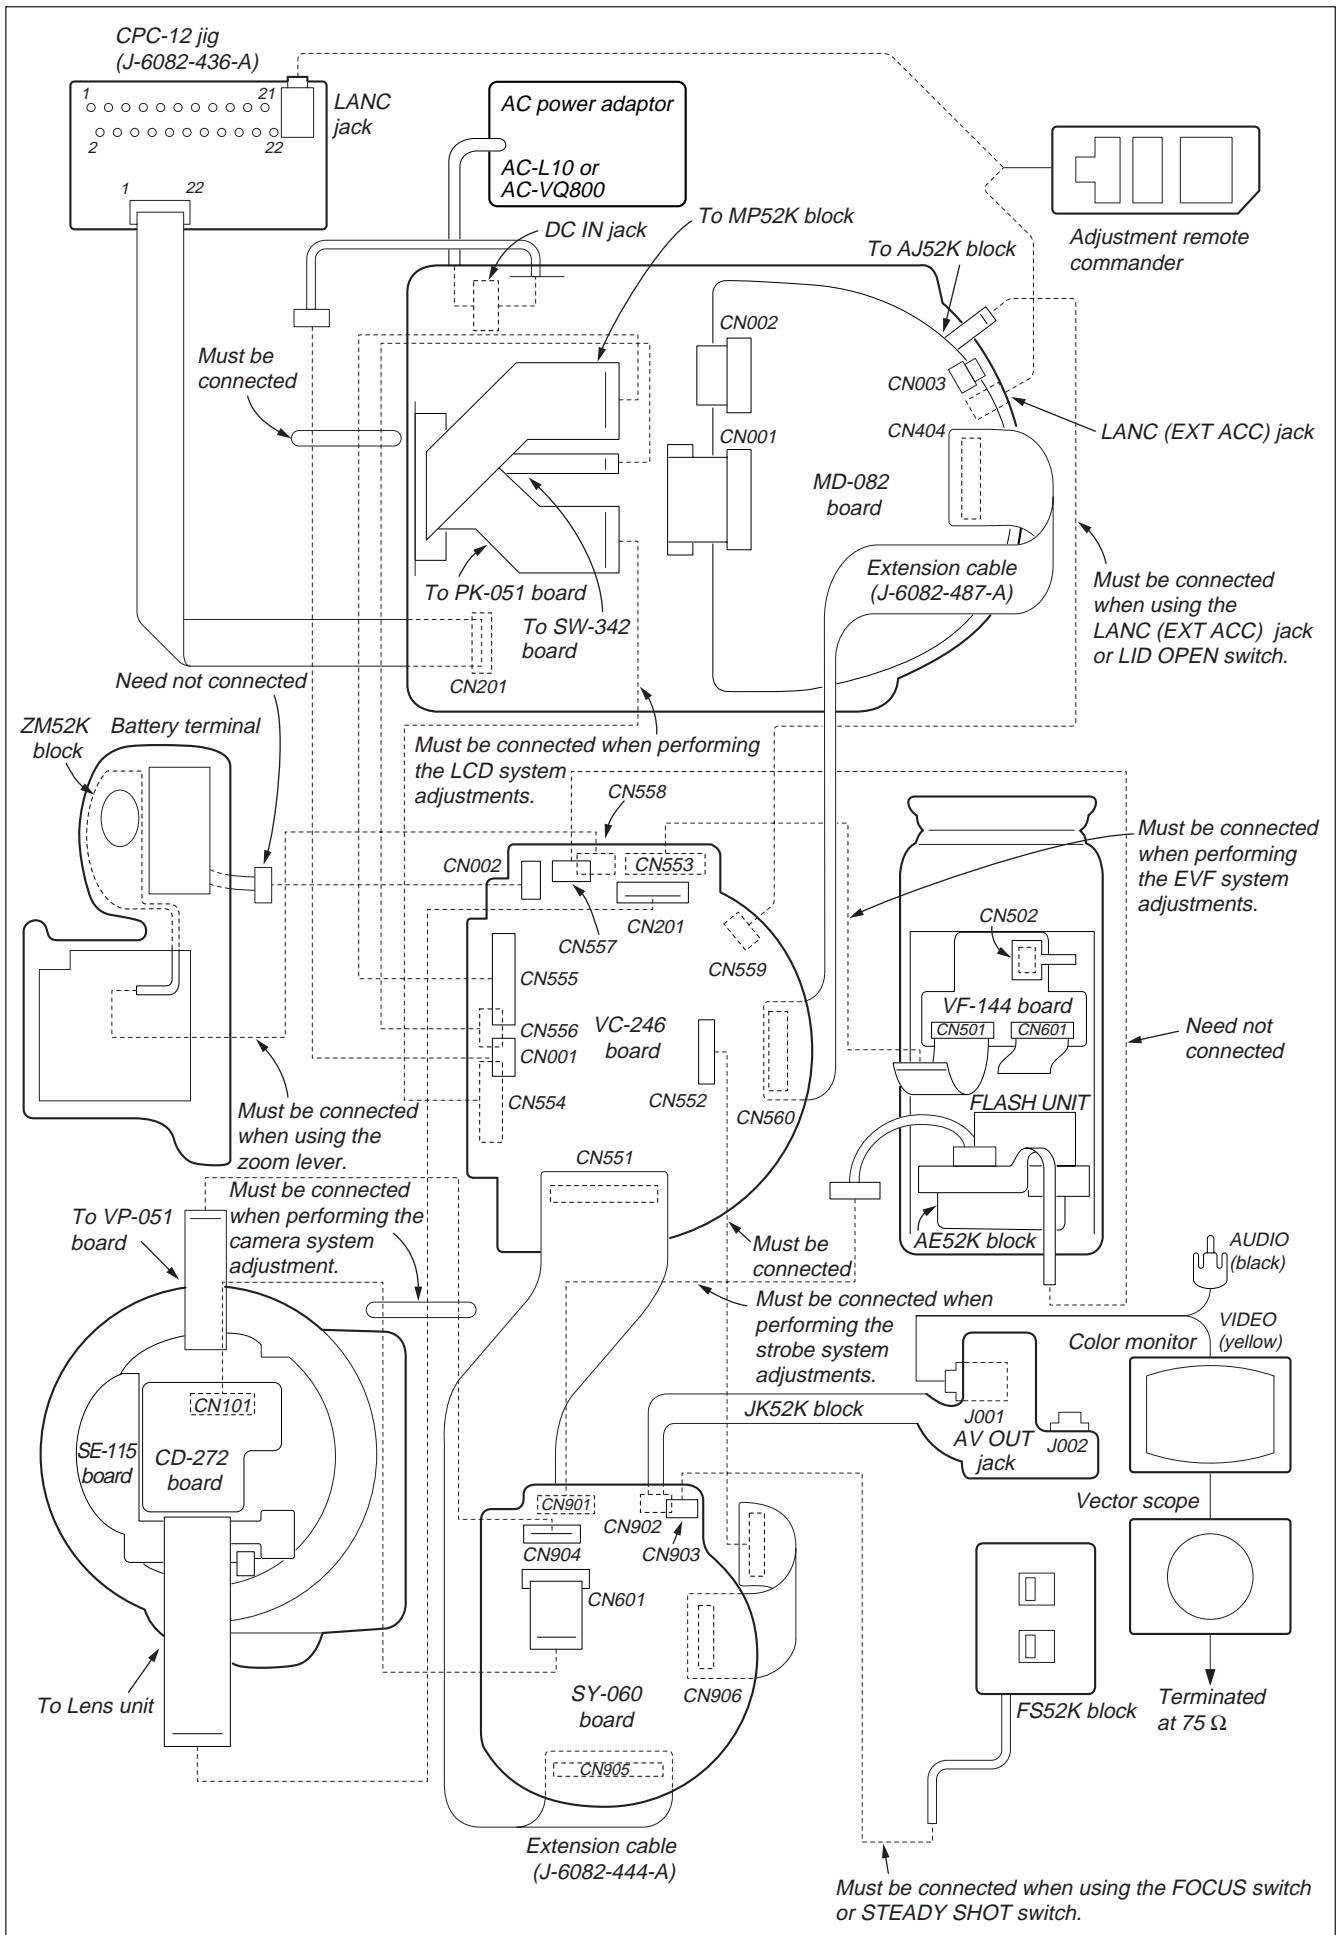

Fig. 5-1-5.
- 1) Connect the equipment for adjustments according to Fig. 5-1-5.